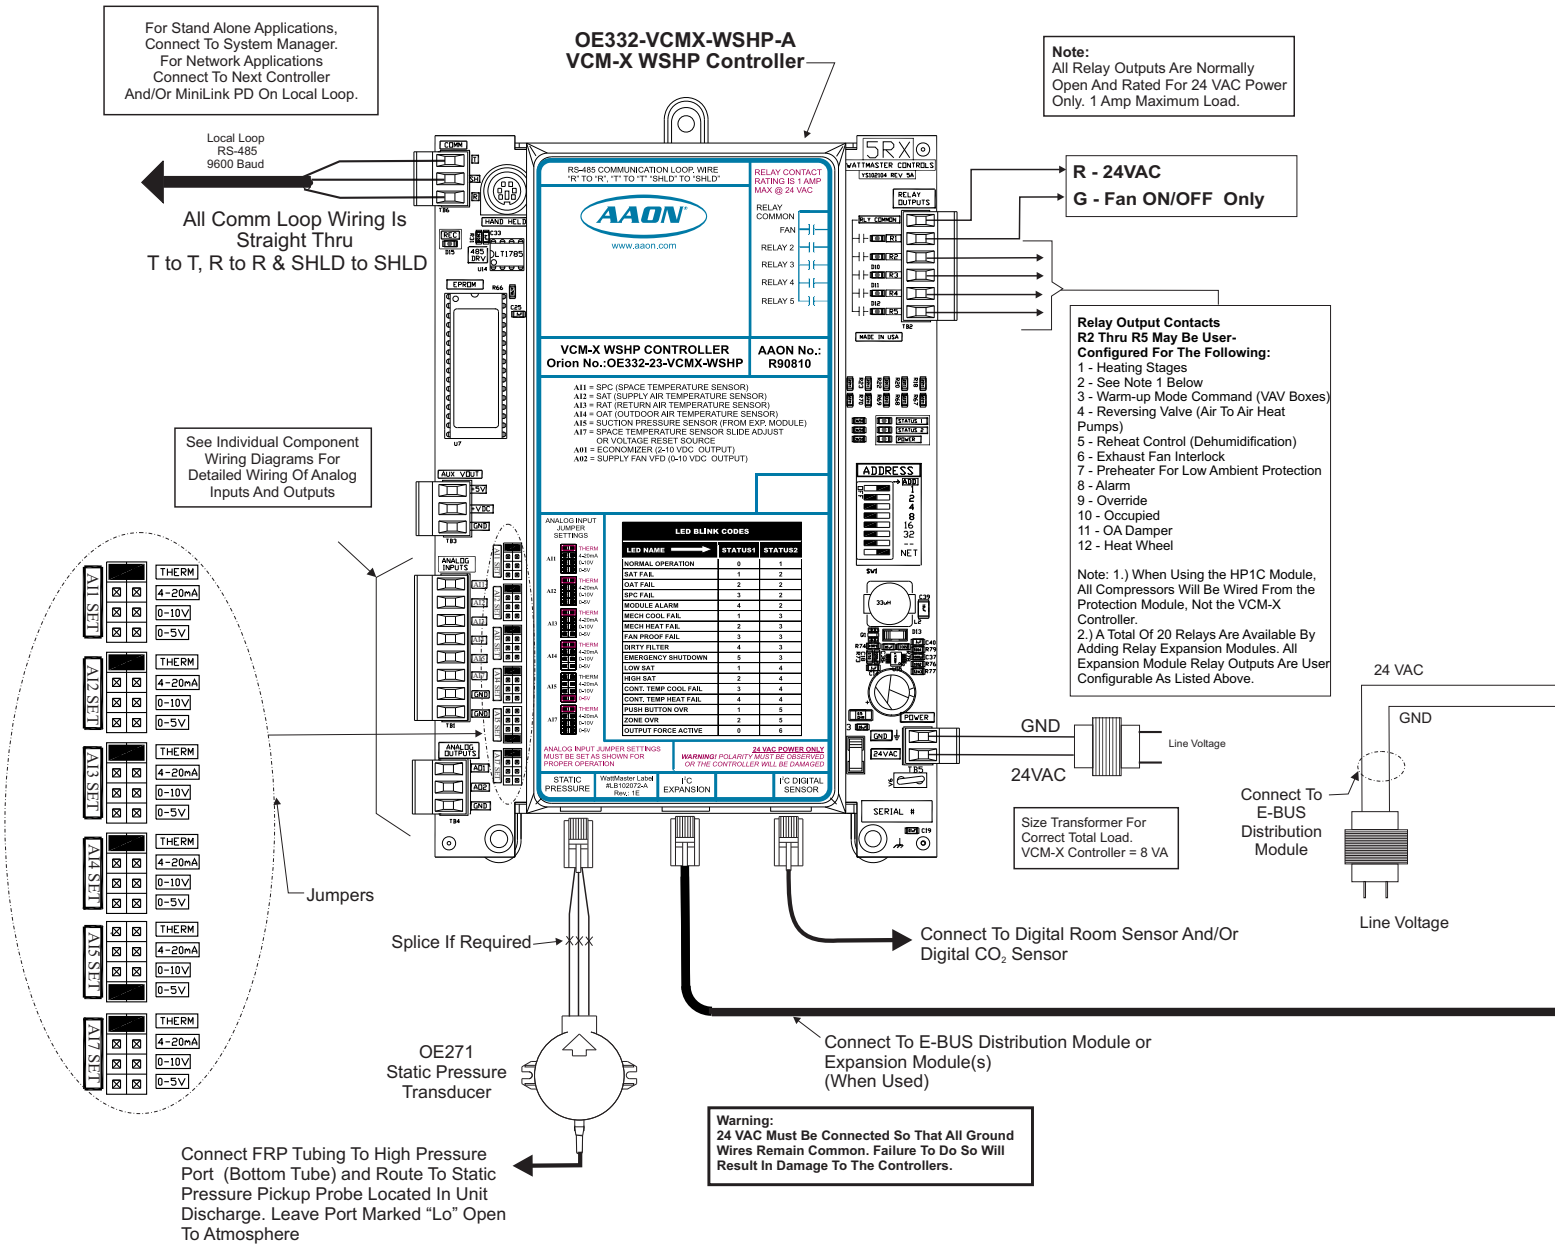

Figure 4: VCM-X WSHP Controller to One Condenser Head Pressure Module Wiring Diagram
The E-BUS Distribution Module connects to the VCM-X Modular Controller, VCM-X WSHP Controller, VCM-X Expansion Module, or 12 Relay Expansion Module using the I²C port. See **Figure 4** below for wiring. Up to (2) One Condenser Head Pressure Modules can be used per E-BUS Controller.